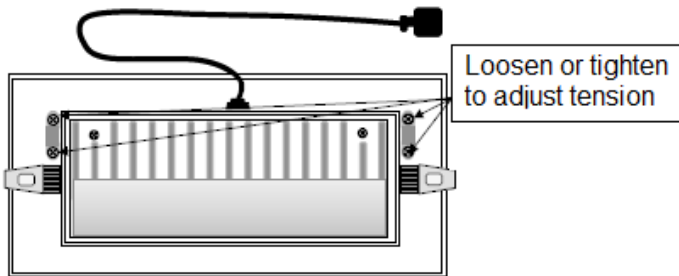

Fig. 3
- Adjust the luminaire to the desired angle (max. tilt angle 60°). The tilt tension can be adjusted by loosening or tightening the screws on the rear of the fitting (see Fig. 3)